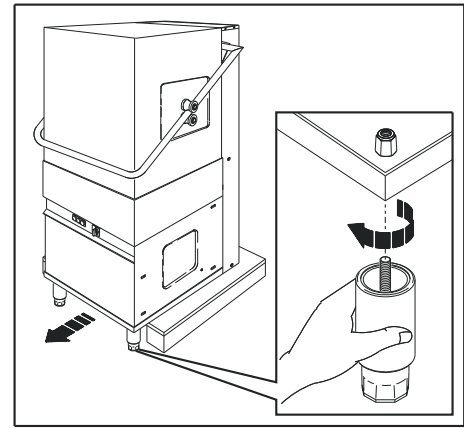

Fig. 4
3. Move the machine on the pallet until freeing of two of the four holes for insertion of the support feet (fig. 4).
Take one of the supplied feet and tighten the screw in one of the two seats vacated (fig. 4). Proceed with installation of the second foot following the same procedure (fig. 4).